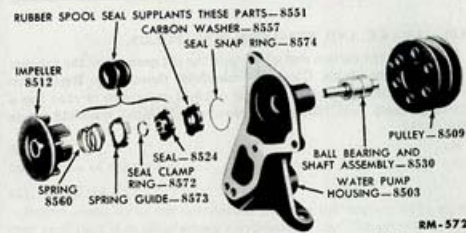

Fig. 55—Water Pump (Ball Bearing Type), Disassembled
Two types of water pumps are in use; the bushing type, as shown in fig. 46, and the ball bearing type, as shown in fig. 55.
the impeller and housing (fig. 53). Remove the water pump seal snap ring from the impeller, and remove the carbon washer, seal clamp ring, spring guide, and spring from the impeller (fig. 55). Clean all parts thoroughly.
(1) **INSPECTION.** Replace a water pump housing if it is cracked or damaged. Replace a water pump pulley if it is cracked or damaged. Replace a pump shaft and bearing if the bearing has a tendency to stick when it is turned or if it has excessive side or end play. Replace the rubber seal or carbon washer if it is scored or worn. Replace a spring if it is rusted or corroded. If the seal is the rubber-spool type and it is worn, replace it (fig. 55).